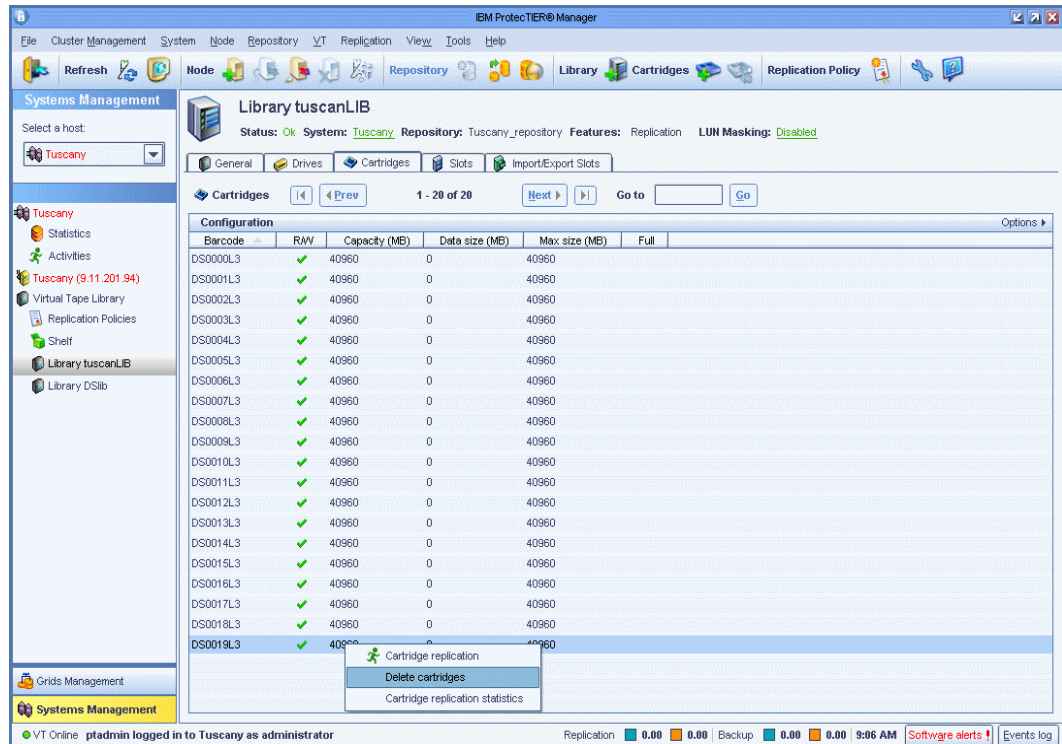

Figure 10-40 Cartridges window
2. Click the **Cartridges** tab. The cartridges window opens (Figure 10-40).